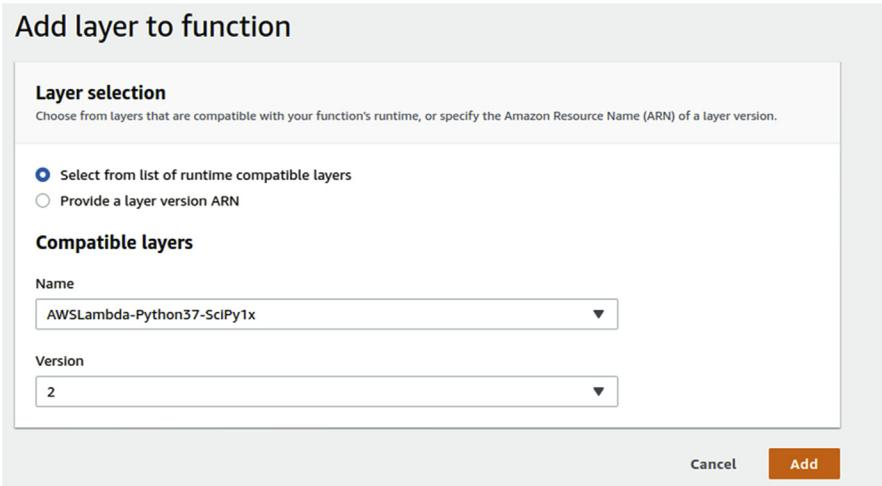

Figure 10.71 SciPy lambda layer.
17. Then, in the Name field, from the drop down list, choose AWSLambda-Python37-SciPy1x as shown in Fig. 10.71. Choose the latest Version in the Version in drop down menu. Then click on Add. The layer is now added as noticed in the designer area.